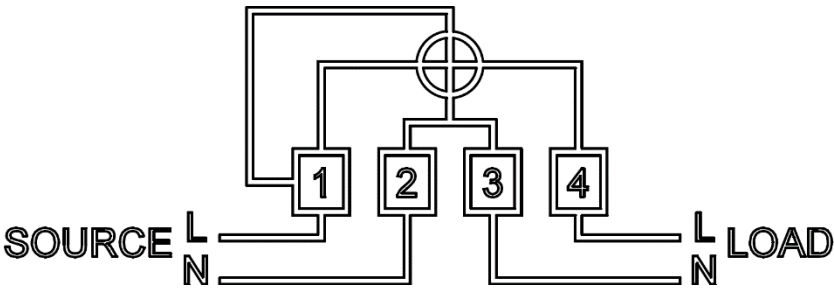

Figure 2.3 Source and Load line connection
- (1) Connect power line to the terminals under terminal cover as diagram indicated on the terminal cover. The diagram is shown in figure 2.3.